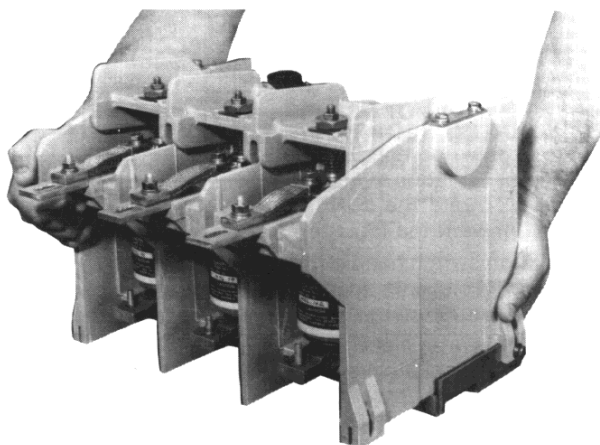

FIGURE 9
2. Lift contactor as shown in Figure 9.